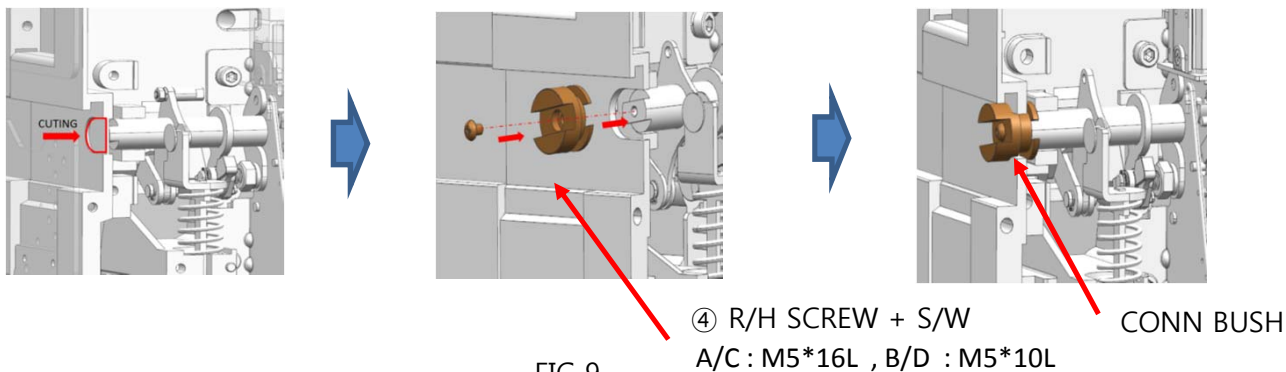

FIG 9
9. MI-CONN-BUSH 설치 / INSTALLATION OF MI-CONN-BUSH (FIG 9)